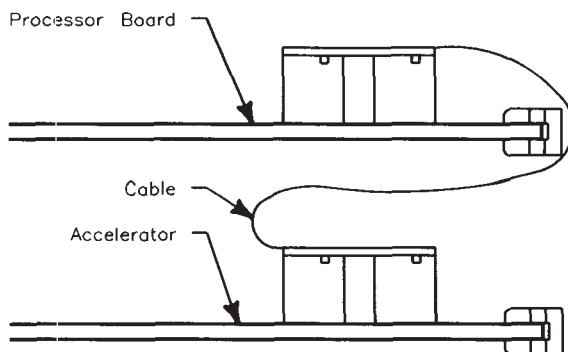

Figure 4-3. Floating-Point Accelerator Connections (side view)
12. Wrap the FPA Bus Cable around the back of the processor board, and attach it to the connectors on the processor board. The cable will become S-shaped, as in the side view in Figure 4-3.